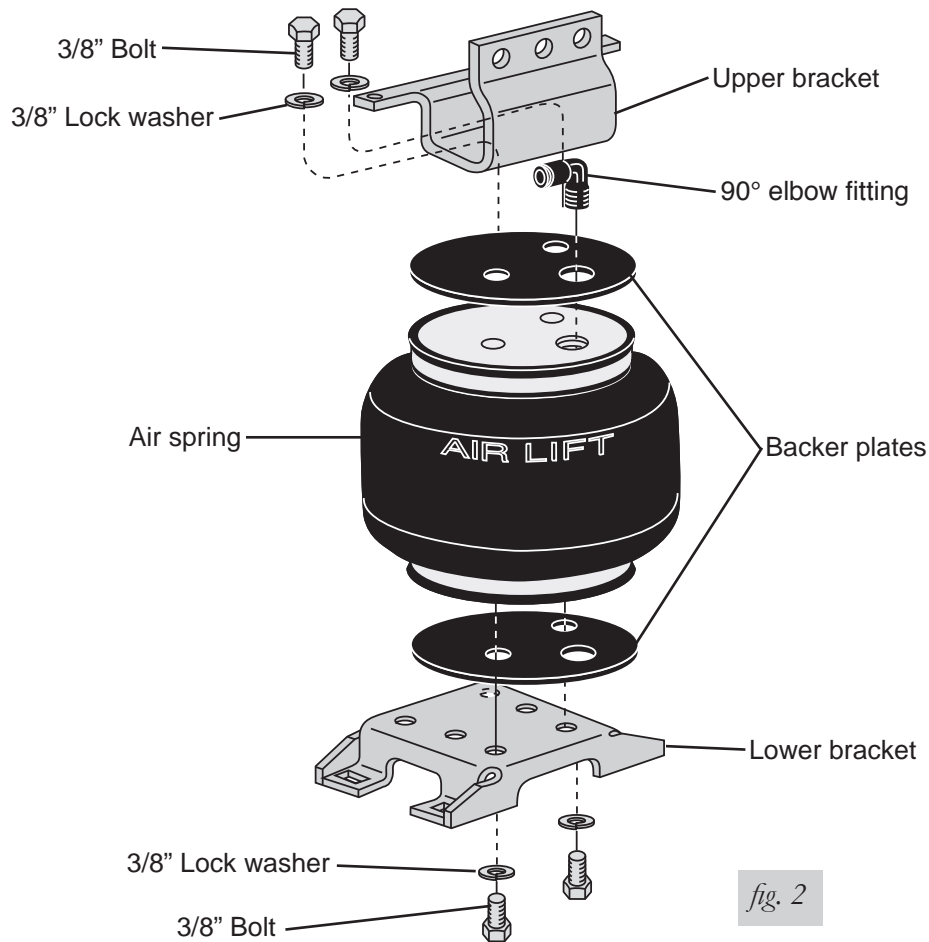

fig. 2
3. Set the upper bracket onto the air spring. Make sure that the air fitting port is on the same side as the vertical leg. Attach the air spring bracket assembly using 3/8" bolts and 3/8" lock washers. Tighten to 20 ft/lbs (fig. 2).
4. Place the lower bracket onto the air spring assembly in an offset position (fig. 2).
6. Insert a 3/8" bolt and a 3/8" lock washer through the holes marked with an "A" to attach the lower bracket and backer plate to the assembly. Again, be sure that the air spring is offset to the fitting side. Tighten hardware to 20 ft/lbs (fig. 2).